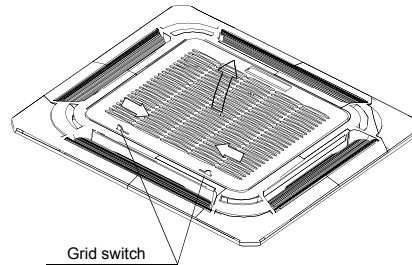

Fig. 5-9
- Slide two grill switches toward the middle at the same time, and then pull them up. (Refer to Fig. 5-9)